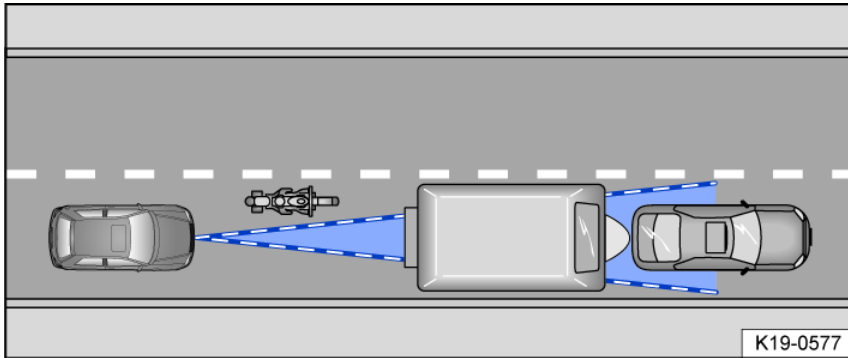

Fig. 111 Narrow vehicle.
- If there are vehicles that are driving close to your vehicle but outside the sensor range, such as motorcycles fig. 111.